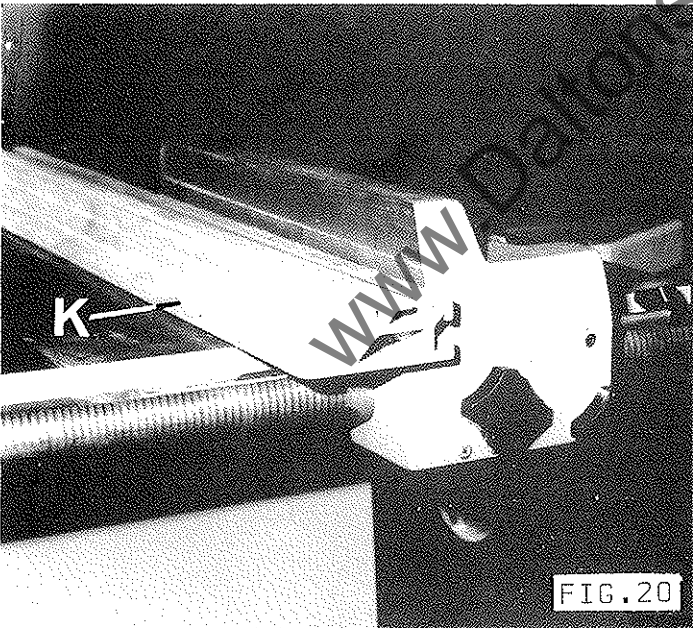

FIG.20
- 2) Slide fence plate over the two locking plates to position shown in FIG.20, then relock handwheels 'L'.